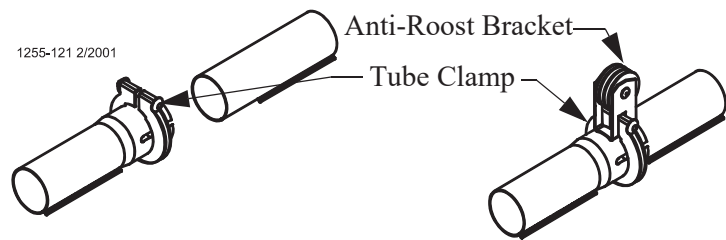

Figure 34. Tube Clamp and Tube Clamp with Anti-Roost Bracket
4. Place a Tube Clamp Assembly or Clamp/Anti-Roost Bracket at each joint. **Figure 34** shows the standard Clamp and Clamp/Anti-Roost Bracket. Systems using 9' or 10' tubes require a Clamp/Anti-Roost Bracket at every **fifth** joint. Systems using 12' tubes require a Clamp/Anti-Roost Bracket at every **fourth** joint. All other joints in the system use the standard Tube Clamp Assembly.